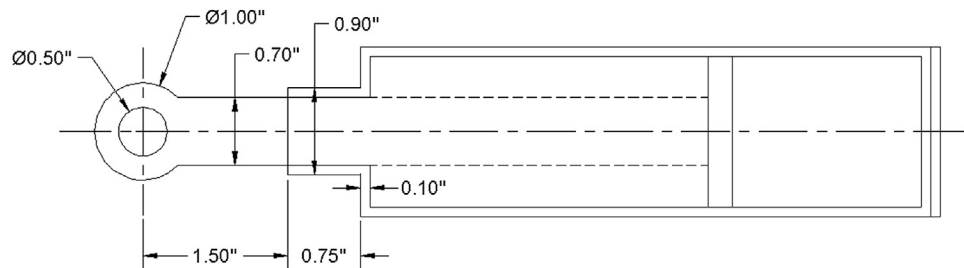

FIGURE 8.29
- Step 9.** Continue adding the basic geometry to the side view, as well as hidden and centerlines, as shown in Figure 8.29. Set **LTSCALE** to **.4**.